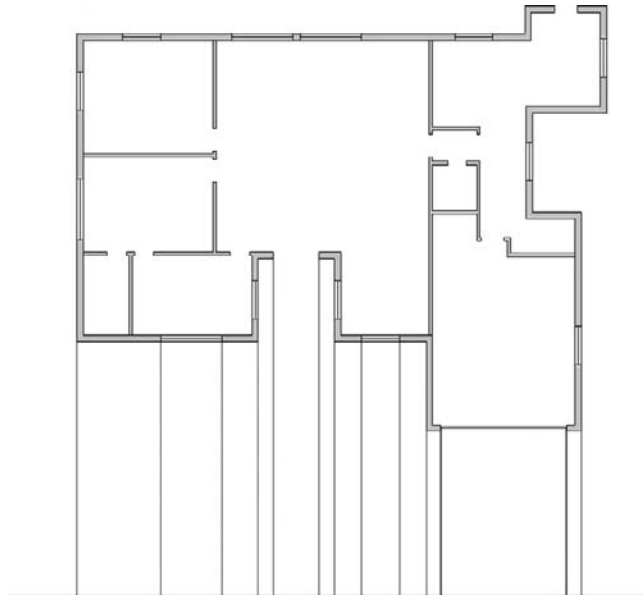

FIGURE 18.22
- Step 1.** You need no new layers for this. Open up the floor plan, freeze all layers except the walls and windows, and draw guidelines straight down from each bend or feature in the wall (such as a door or window), as seen in Figure 18.22.